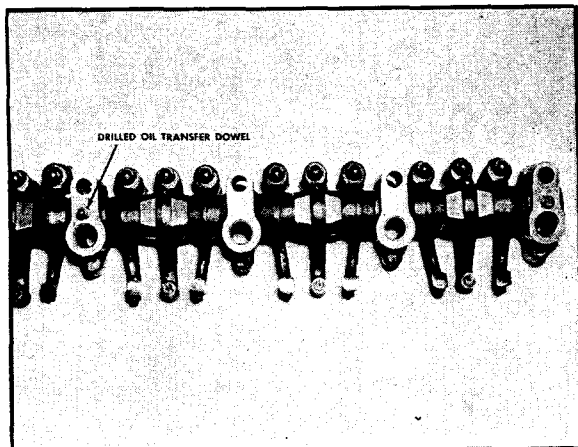

Fig. 12-51. Rocker shaft bearing oil transfer dowel
1. Check center rocker bearing to see that it has a drilled dowel for oil transfer. Fig. 12-51.